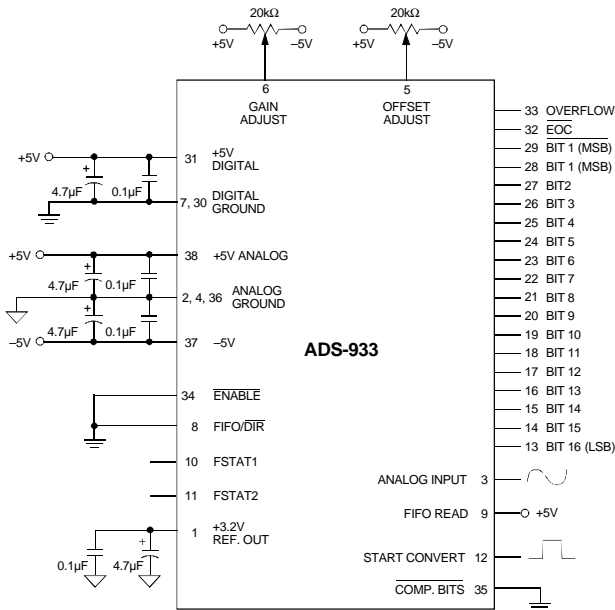

Figure 2. Connection Diagram
- The ADS-933 achieves its specified accuracies without the need for external calibration. If required, the device's small initial offset and gain errors can be reduced to zero using the adjustment circuitry shown in Figure 2. When using this circuitry, or any similar offset and gain calibration hardware, make adjustments following warm-up. To avoid interaction, always adjust offset before gain. Tie pins 5 and 6 to ANALOG GROUND (pin 4) if not using offset and gain adjust circuits.
Connect the converter per Figure 2. Any offset/gain calibration procedures should not be implemented until the device is fully warmed up. To avoid interaction, adjust offset before gain. The ranges of adjustment for the circuits in Figure 2 are guaranteed to compensate for the ADS-933's initial accuracy errors and may not be able to compensate for additional system errors.